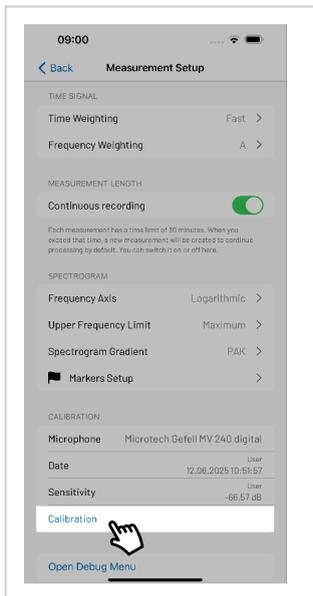

Figure 3: Start of calibration.
4. Go to the gear icon  at the top right, enter the measurement setup, and tap "Calibration" near the bottom (Figure 3).